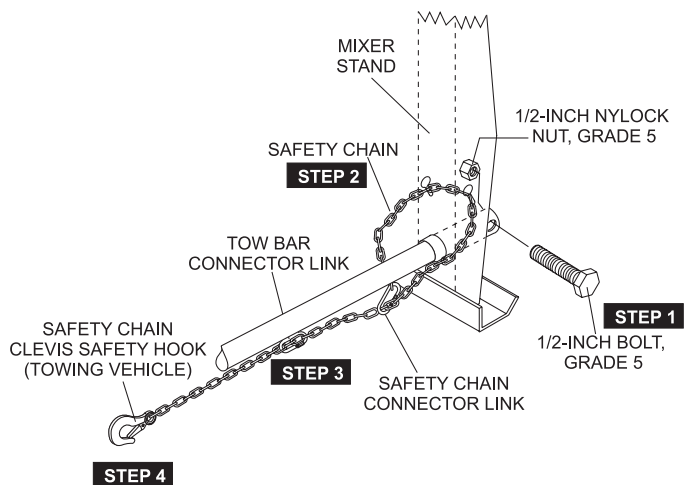

Figure 5. Tow Bar and Safety Chain Installation
4. Attach safety chains as shown in Figure 5. Remember to **cross** the safety chains underneath the towpole of the mixer.
Reference Figure 5 for the installation of the **safety chain**.